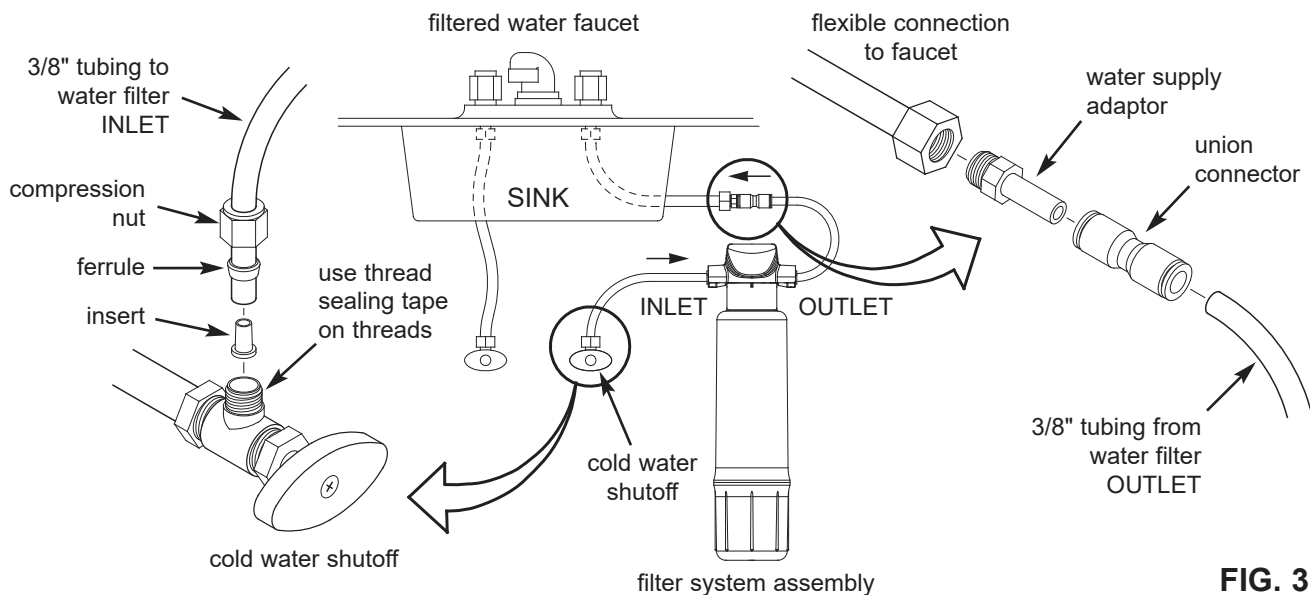

FIG. 3
Check and **comply with local plumbing codes** as you plan, then install the fittings to connect the water filtration system into the sink's cold water supply line. Fittings (9/16-24 thread) and 3/8" O.D. tubing are included to provide connections to and from the water filtration system's inlet and outlet. A typical connection using the included water supply fittings is shown in Figure 3.
3. Locate one piece of the supplied 3/8" tubing, plus the supplied compression nut, ferrule and tubing insert (See Fig. 3). Assemble the parts onto the tube, as shown in Figure 3, and thread the compression nut onto the cold water shutoff. Tighten to provide a leak-tight connection.
4. Locate the water supply adaptor (supplied) and install it into the nut on the supply line which you disconnected in Step 2. Refer to Figure 3.
5. Press the stem of the water supply adaptor into one end of the supplied union connector (See Figure 3). Be sure to push the stem all the way in.